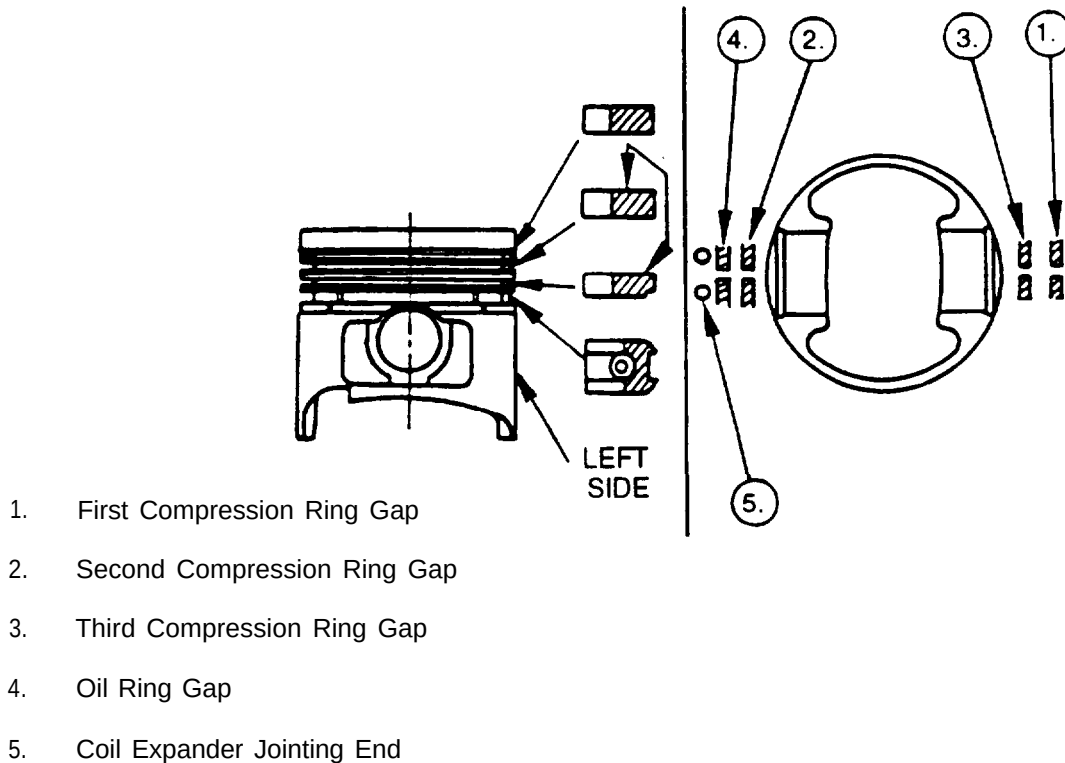

FIGURE 3-97. Piston Ring Gap Setting
- u. Position piston ring gaps as shown in FIGURE 3-97.